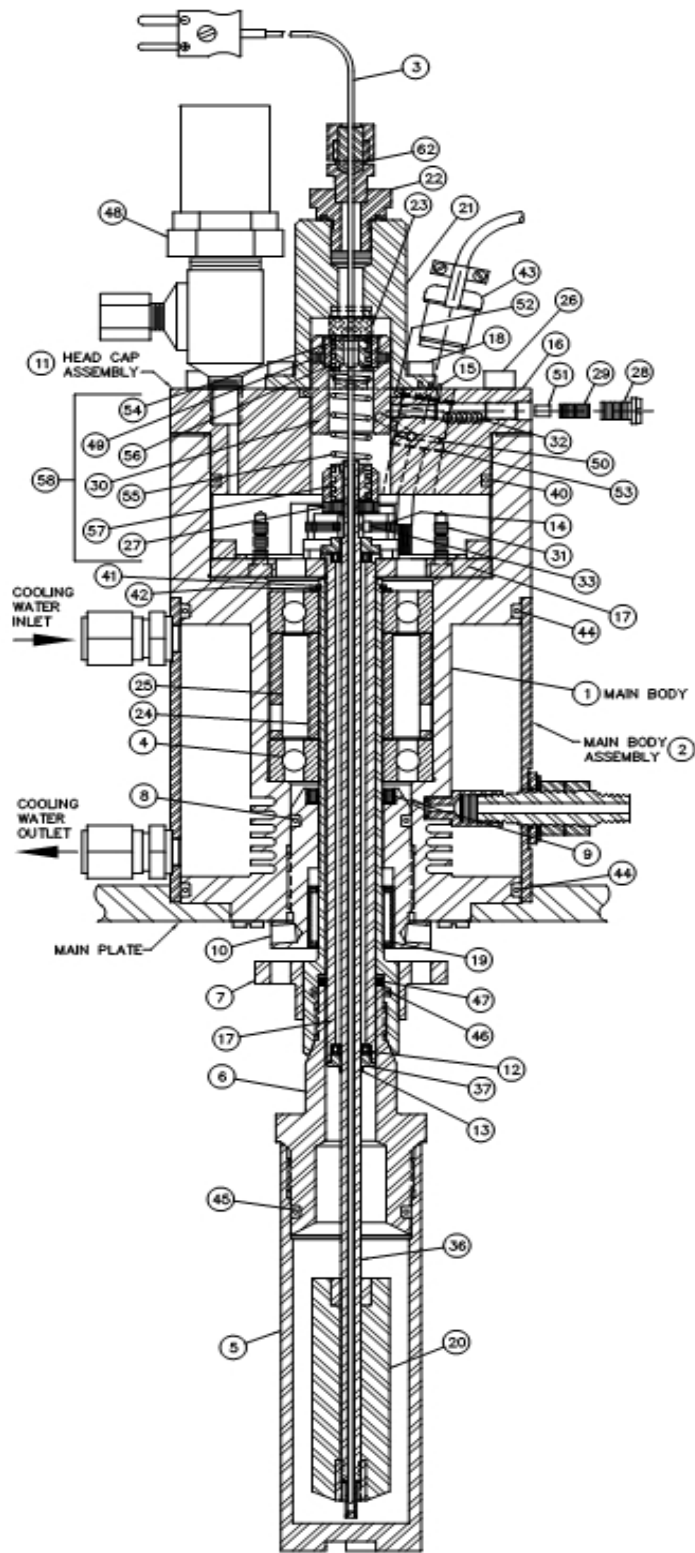
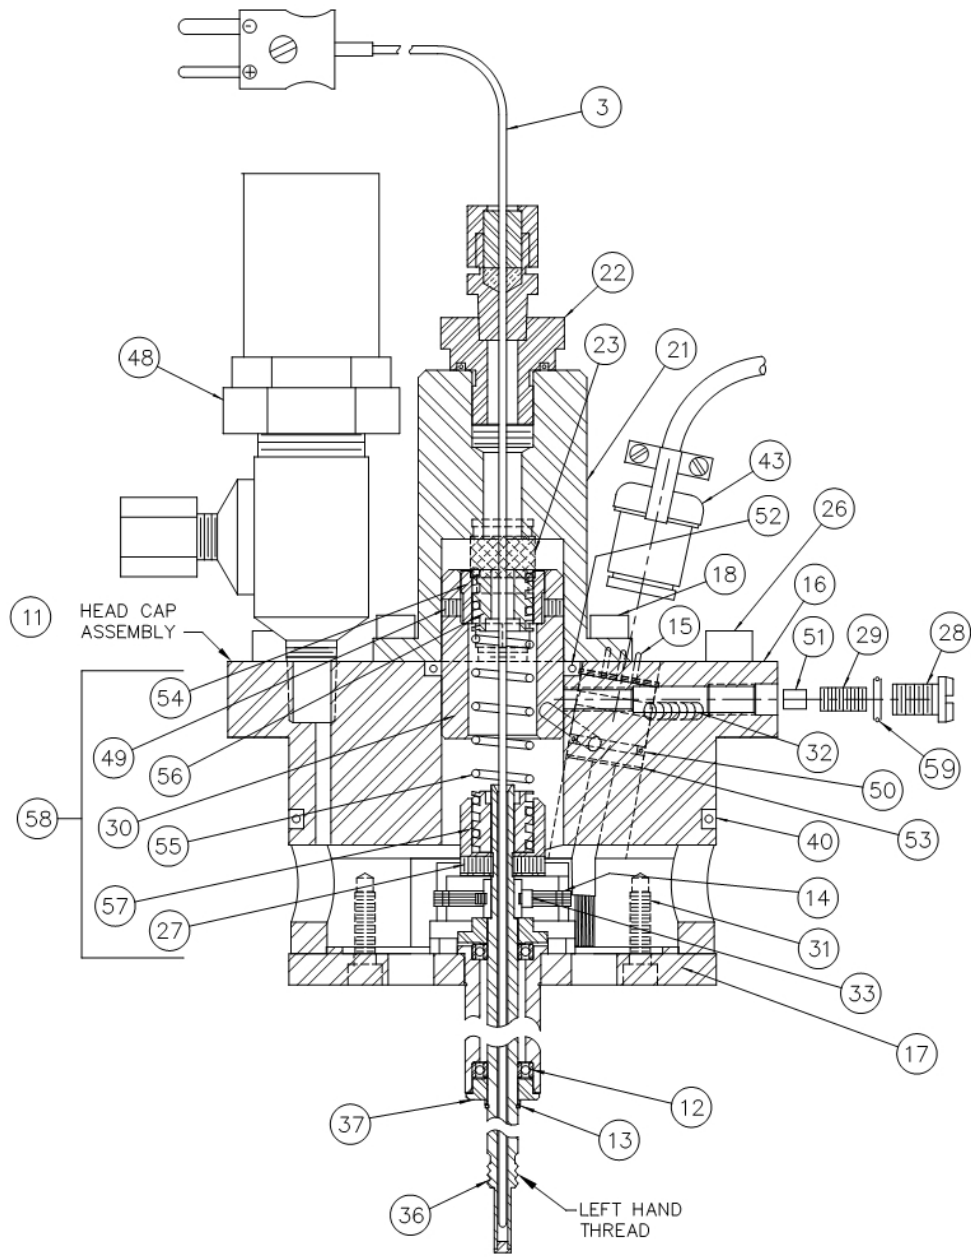

Fig. 3
Fig. 5
Fig. 3 is a sectional view of the Rheometer main head assembly and the head Cap Assembly. This head assembly can be conveniently separated into the main body assembly item [2] and the head Cap assembly, item [11]. Usually the head assembly is removed. Refer to Fig. 5 for the Head Cap assembly details, and Fig. 6 for the Head Body assembly details.
The Main Body contains the main bearings, item [4], and the bearing spacers, items [24] and [25]. The main shaft assembly is mounted through these bearings. It consists of the following items listed from bottom up on Fig. 3. Refer to Figs. 3 and 6.
The Head Cap Assembly item [11] consists of the following parts and sub-assemblies mounted to the Head Cap item [16]: Refer to Figs. 3 and 5.
B. SAMPLE THERMOCOUPLE REPLACEMENT - (Refer to Fig. 3).
C. BOB SHAFT BEARING REMOVAL AND REPLACEMENT - (Refer to Fig. 5)
- b. Reach through ports in head cap and loosen (2) set screws item [27]. (Refer to Fig. 5.